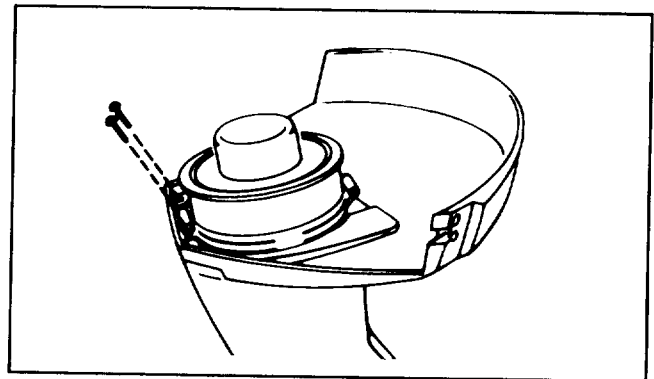

Figure 7
3. Push front side of grass shield down and align screw holes. Tighten with screws (Fig. 7).